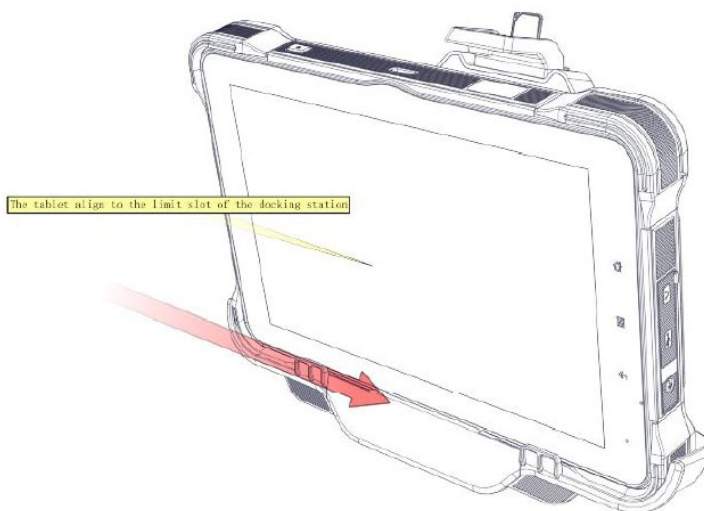

Fig. 4-2
2. Align the tablet to the limit slot of docking station as Fig 4-2 shown.